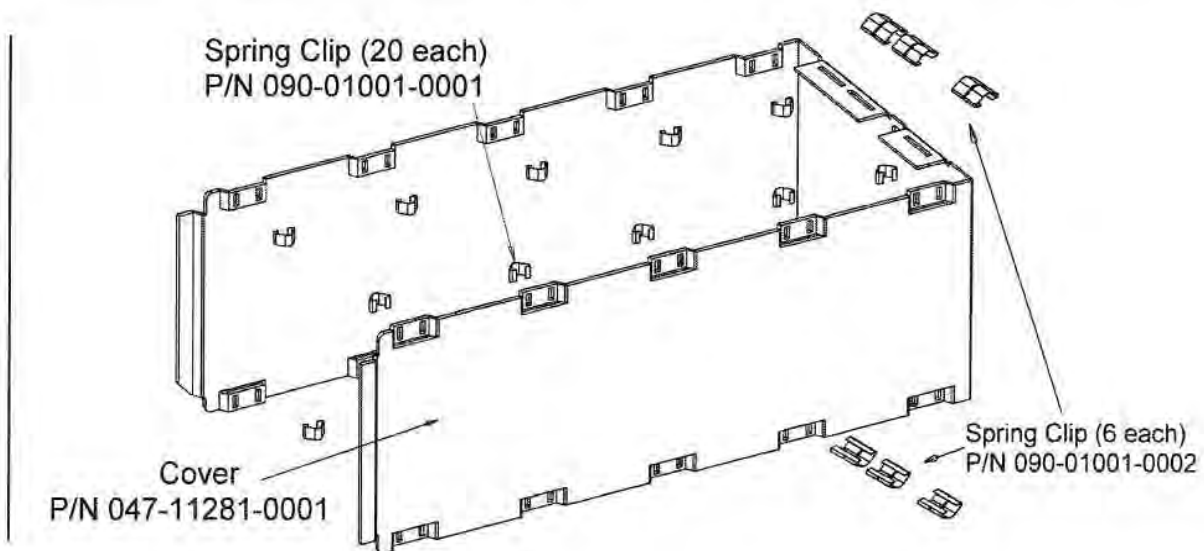

Figure 1
7. See Figure 1 as needed. Inspect the unit cover to determine whether it is the new Cover P/N 047-11281-0001 or the old Cover P/N 047-11016-0001. (Some newer units might already have the new cover installed.) The new cover has 5 locations on each side edge for 1 spring clip each, for a total of 20 spring clips on the sides. The old cover has 4 locations on each side edge for 2 spring clips each, for a total of 32 spring clips on the sides. Both covers have 6 spring clips on the back.